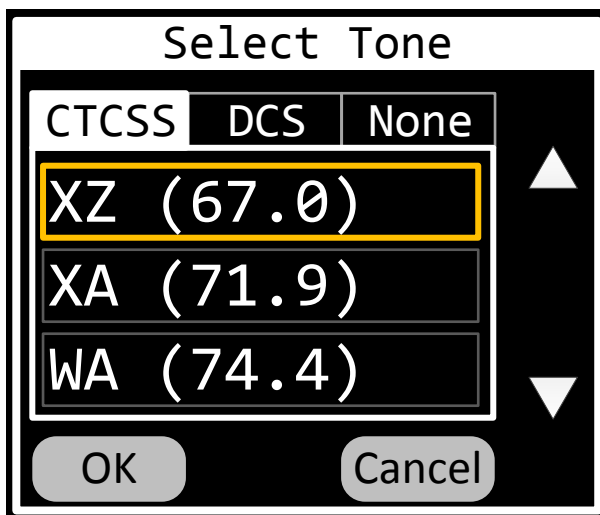

Figure 94 Tone-Entry Dialog CTCSS
The Tone-Entry dialog shall allow the operator to input sub-audible tones. Both CTCSS (PL) and DCS (DPL) tones shall be supported. Valid values for these tones are described in Appendix A. CTCSS tones shall be displayed using their EIA code. DCS tones shall be displayed as a 3-digit number, padded with a leading zero if required. Tones shall be selectable by touching them directly, or via the cursor/value controls. A tone can be cleared (removed) by pressing the "None" tab. Entry shall be completed by pressing the "Ok" button. The Tone-Entry dialog is depicted in Figure 94.